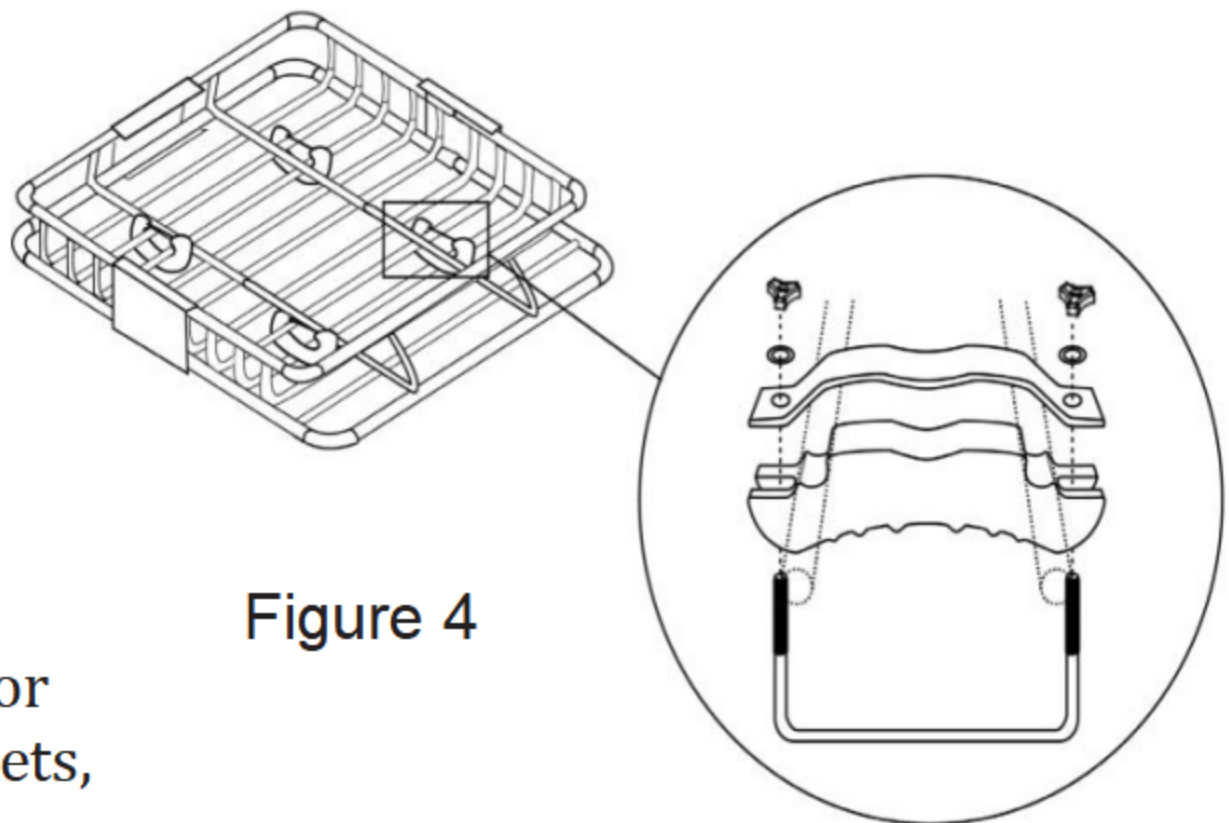

Figure 4
- 5) Secure the saddle with a bracket top plate (4), two knobs (5), and one U-bolt (6), see **Figure 4**.
- 6) Repeat steps 4 & 5 for the other four brackets, see Figure 4.